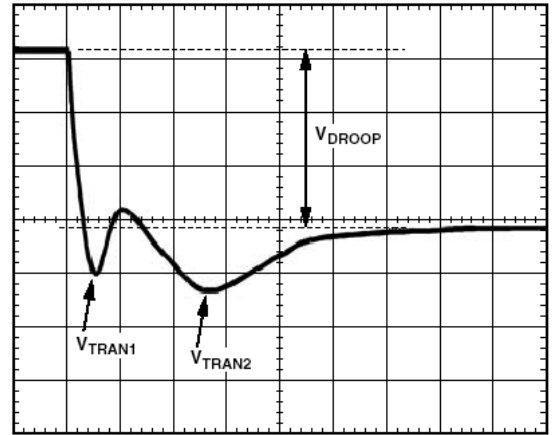
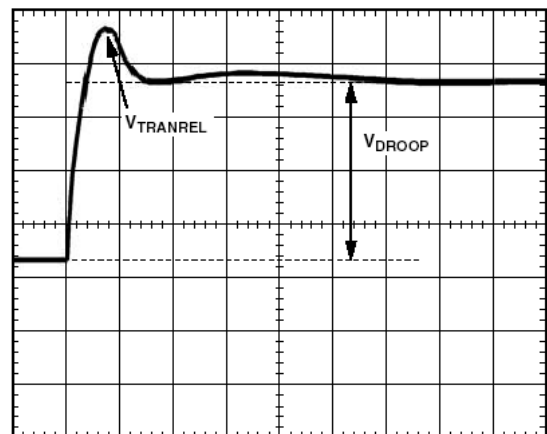

Figure 9. Transient Setting Waveform
Figure 10. Transient Setting Waveform
19. With dynamic load still set at maximum step size, expand scope time scale to see  $2\mu\text{s}/\text{div}$  to  $5\mu\text{s}/\text{div}$ . You will see a waveform that may have two overshoots and one minor undershoot (see Figure 9). Here,  $V_{DROOP}$  is the final desired value.
21. For load release (see Figure 10), if  $V_{TRANREL}$  is larger than  $V_{TRAN1}$  (see Figure 9), you do not have enough output capacitance. You will either need more capacitance or to make the inductor values smaller (if you change inductors, you need to start the design over using the spreadsheet and this tuning procedure).